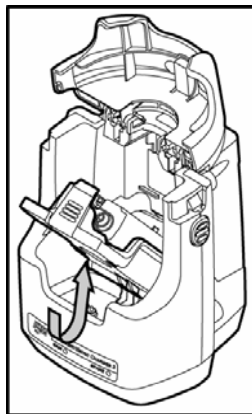

Figure 3. Closing the Battery Tray
4. Close the battery tray. Refer to Figure 3.